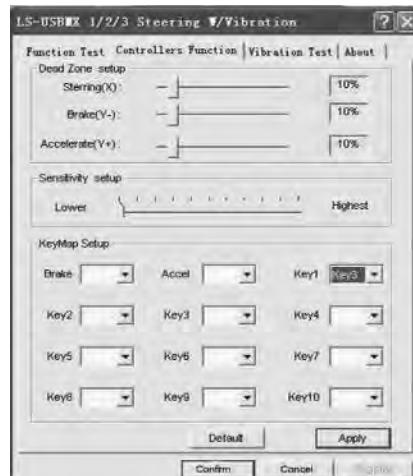

Fig. 8
- Choose Controllers to set axes and buttons (Fig. 8).
- Dead Zone setup: controller will not respond to a slight touch of acceleration pedal (Accelerate Y+), or brake pedal (Brake Y-), or turns of the wheel (Steering X), therefore necessary adjustments should be made by cursors (Fig. 8);
- Sensitivity setup: the higher sensitivity is, the swifter and more efficient response of controller to pressing of pedals and turns of the wheel will be, therefore necessary adjustments within Lower to Higher range should be made by cursors (Fig. 8);
- KeyMap Setup reprograms functional keys: there should be chosen new necessary assignment against the key designation (Fig. 8);
- After installation of the driver, the controller can be automatically centered by pressing MODE button ⑫.